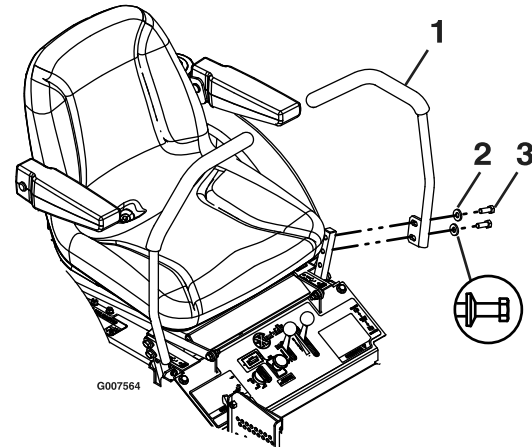

Figure 11
1. Align the levers front/rear position. With the levers in the neutral position, loosen the hardware and adjust the levers sliding and/or tilting the lever(s) forward or backward until properly aligned and tighten hardware (Figure 11).